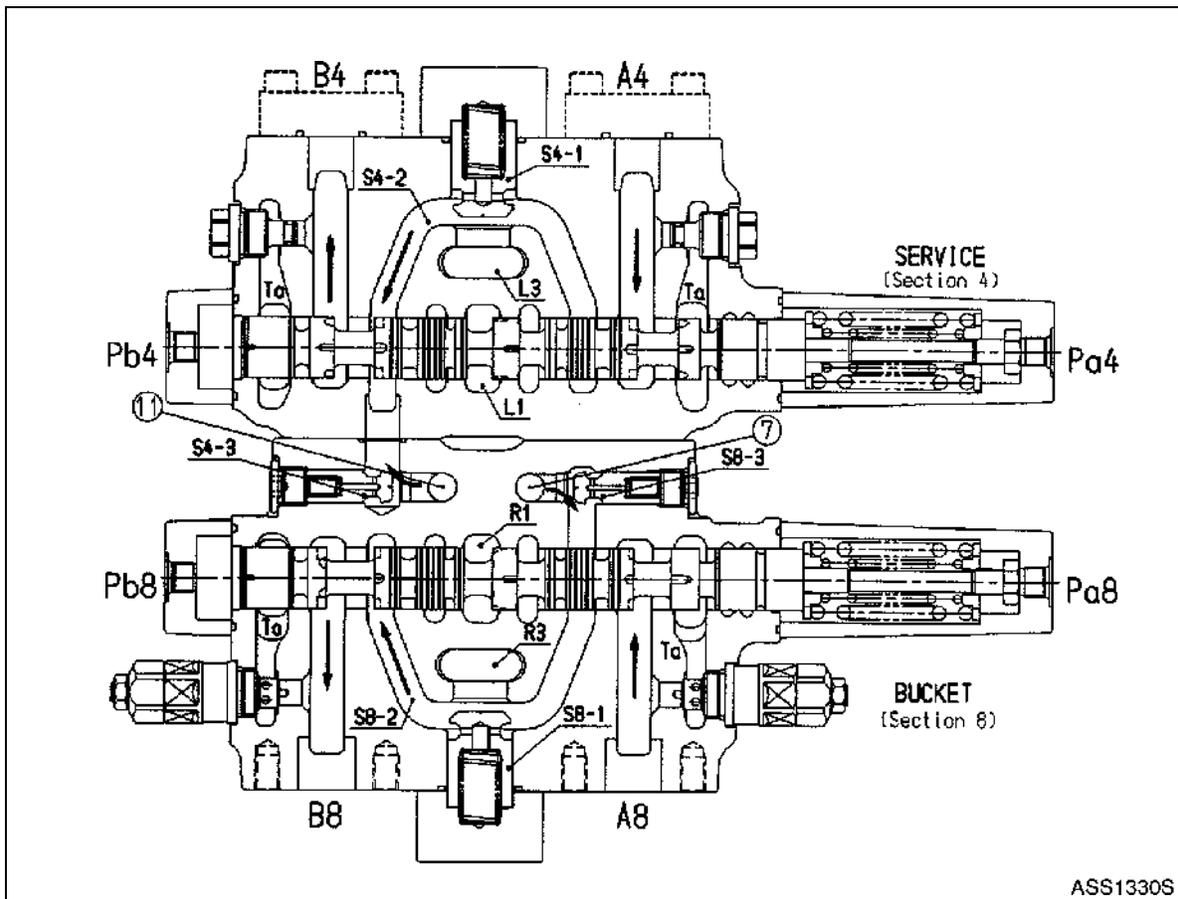

Figure 8
### Spare Spool Shifting (Figure 8)
### Bucket Spool Shifting (Figure 8)
1. This valve has a neutral-cut spool that is installed in lowest flow side (the upper flow side of low pressure relief valve). When spool (L (R)) is shifted by increasing pressure of port (pa10 (pa11)), neutral passage (L1 (R1)) is closed. Oil supplied to port (P1) flows through passage (7) and poppet (S8-3, Figure 8), it then joins with bucket (section 8) passage (S8-2, Figure 8). Oil supplied to port (P2) flows through passage (11) and poppet (S4-3, Figure 8), it then joins with spare (section 4) passage (S4-2, Figure 8).